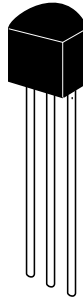

Figure 1.4 A TO-92 case.
11. Identify the four different transistors in the kit. All four transistors are packaged in what is commonly called a TO-92 case. A TO-92 package is shown in **Figure 1.4**. On the flat side will be markings or lettering. Read the markings on each device and identify their part numbers in **Table 1.1**. When all four transistors have been identified, set them to the right side of your work space.